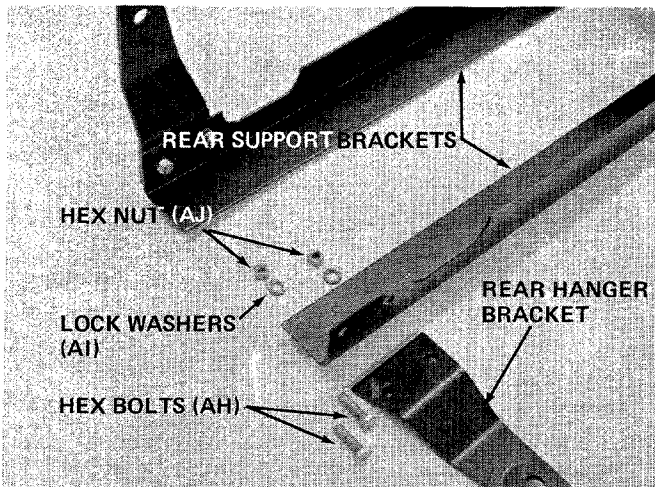

FIGURE 13
- Attach rear hanger brackets to rear support brackets using hex bolts (AH), lock washers (AI) and hex nuts (AJ). See figure 13. **Tighten finger tight only at this time.**